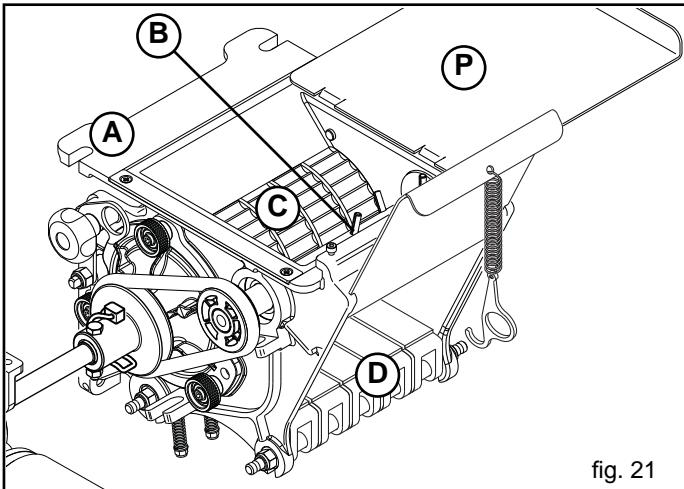

fig. 21
The doser (Fig. 21) the most important part for distribution, is located underneath the seed hopper.
- Hopper with product:** use the movable panel (P, Fig. 21) to exclude feeding from the hopper to the doser. Then empty the dosing chamber.
IMPORTANT: before starting seeding, open the panel (P, Fig. 21) to feed the doser.